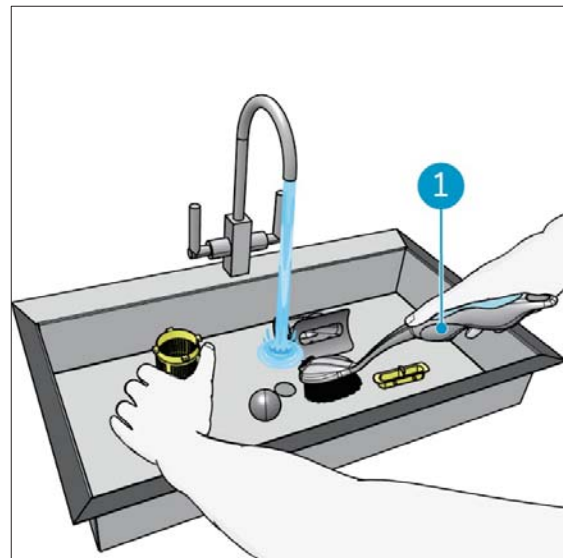

Figure 31
7. Rinse the parts with tap water. If required, clean with a brush (Figure 31, pos 1).